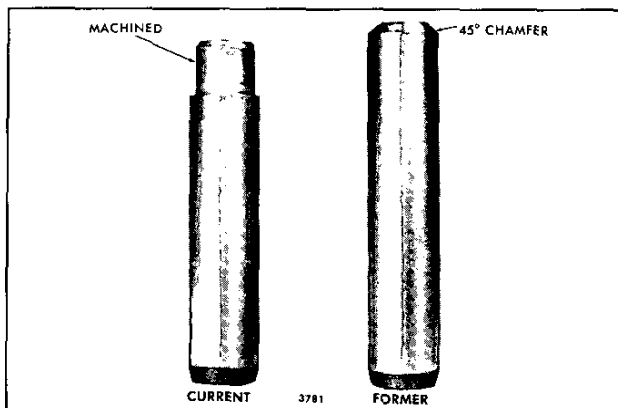
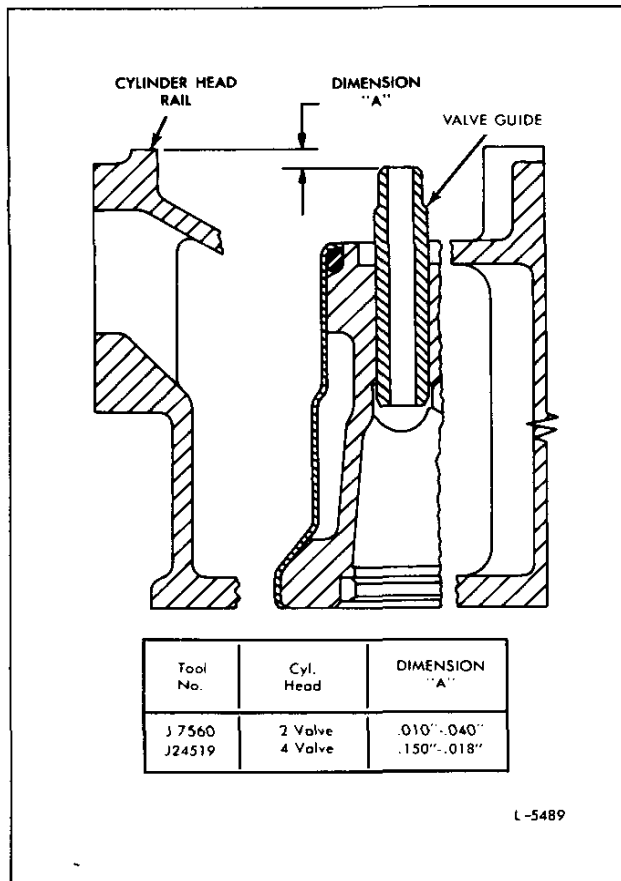

Fig. 6 – Former and Current Valve Guides
Fig. 7 - Valve Guide Installing Tools
The current valve guides have a 45° chamfer at the top, replacing the former guides with a 15° chamfer. In addition, the guide for the four-valve cylinder head is machined for use of an oil seal (Fig. 6).
2. Insert the internally threaded end of the valve guide in the proper valve guide installing tool (refer to the *Valve Guide Installing Tools Chart* (Fig. 7). When replacing the exhaust valve guides in a cylinder head, the current guide which is machined for use with an oil seal should be used in place of the 45° chamfered guide (Fig. 6). The current guide will facilitate field installation of valve guide oil seals.